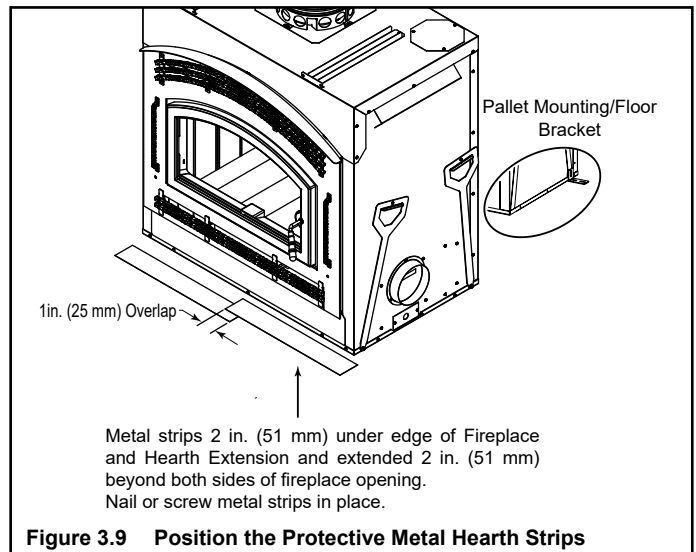

Figure 3.9 Position the Protective Metal Hearth Strips
- Metal strips must extend beyond the front and sides of the fireplace opening by at least 2 in. (51 mm). See Figure 3.9.